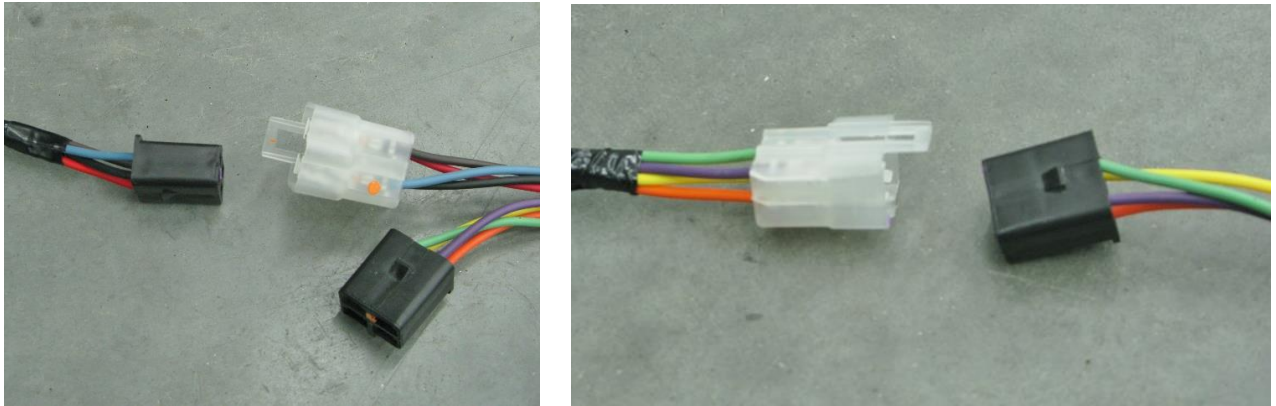

Figure 41 – Plug in Module to Harness
37. Once the module is secured, plug the black connector from the module into the clear connector with the corresponding orange, yellow, green and purple wires. Plug the clear connector from the module into the black connector with the corresponding red, black, blue and brown wires on the new harness (Figure 41).